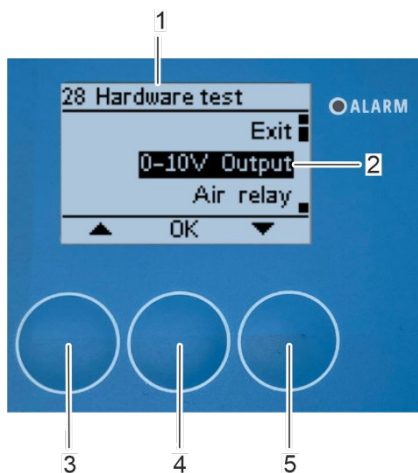

Fig. 143: Open submenu “0-10V output”
⇒ The “28 Hardware test” submenu (Fig. 143/1) appears on the display again and the rotor turns when the electrical installation is correct.
5. After checking the 0-10 V output, select the “0-10V Output” submenu (Fig. 143/2) and confirm with [OK] (Fig. 143/4).